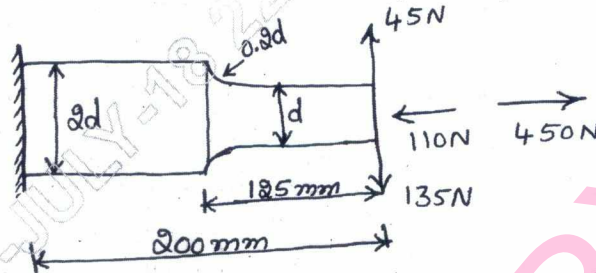

Fig.Q3(b)
- b. A steel cantilever member shown in Fig.Q3(b) is subjected to a transverse load at its end that varies from 45 N up to 135 N down as an axial load varies from 110 N compression to 450 N tension. Determine the required diameter at the change of section for infinite life using a factor of safety of 2. The strength properties of the material are  $\sigma_u = 550$  MPa,  $\sigma_y = 470$  MPa and  $\sigma_{-1} = 275$  MPa. Notch sensitivity index  $q = 1$ .